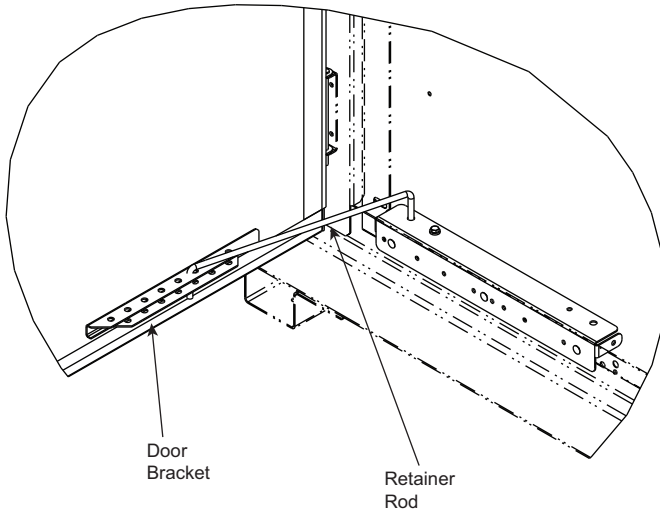

Fig. 5 — Access Door Retainer
3. Rotate the retainer rod toward the door bracket. See Fig. 5 for door bracket and retainer rod locations.